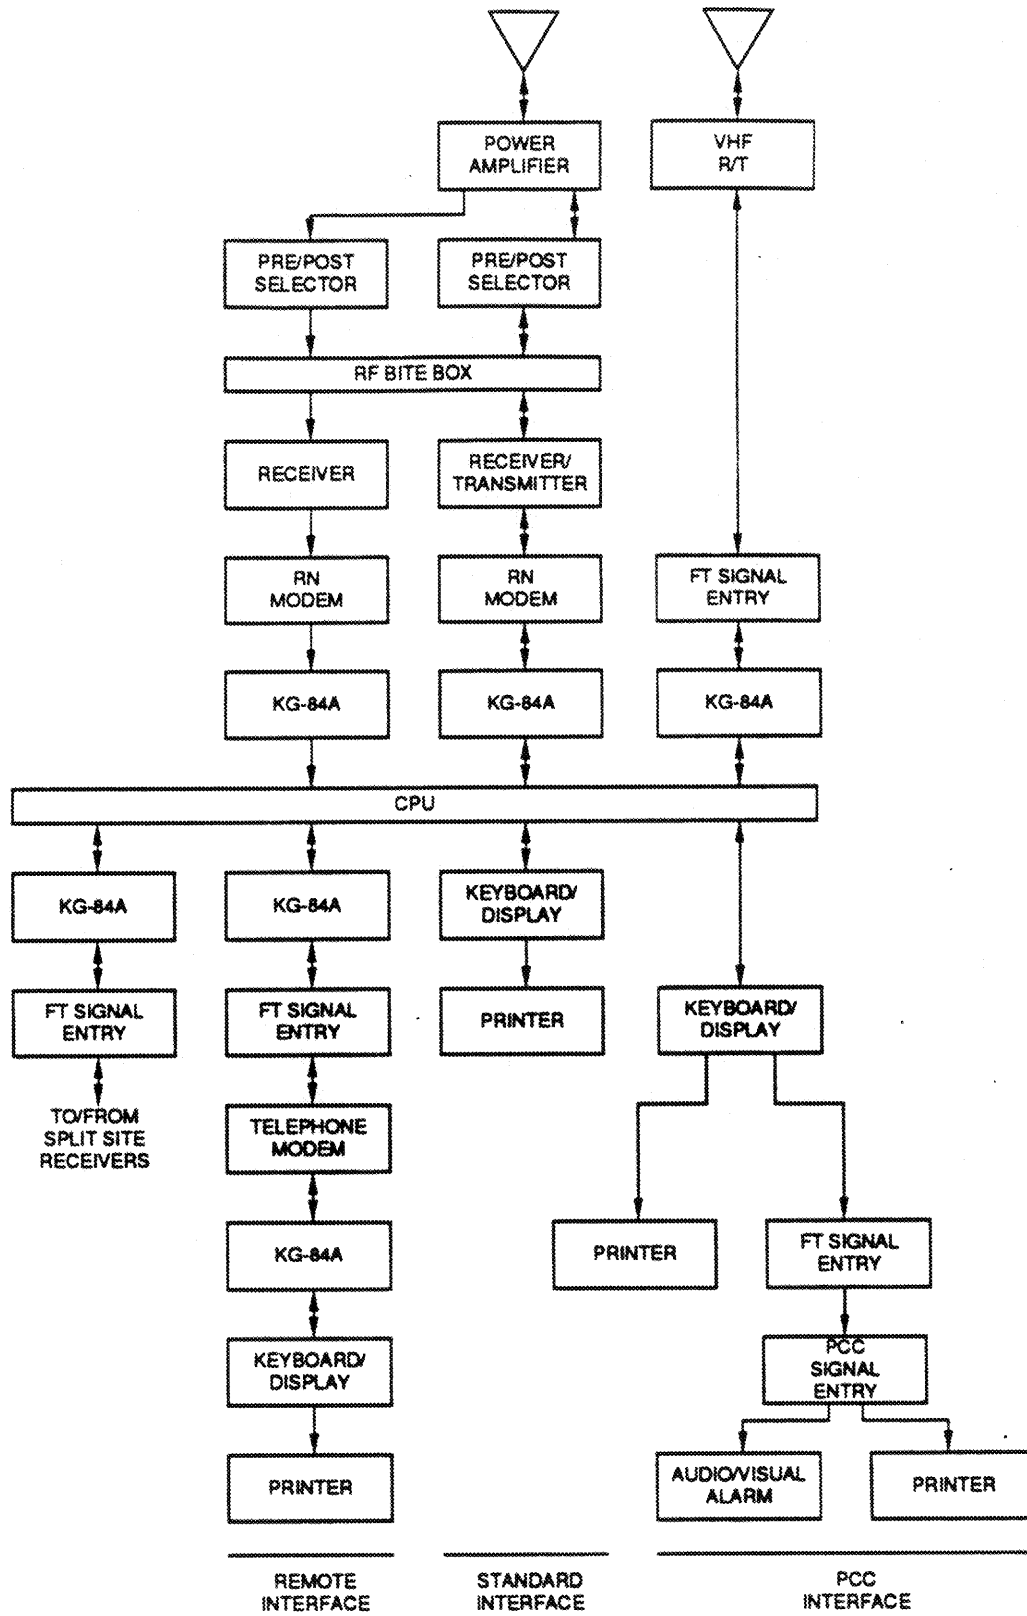

Figure 2-5. Data Signal Flow Diagram
a. Figure 2-5 shows the Data Signal Flow Diagram. HF encrypted data signals are received by the antenna, filtered by the pre-post selector, and applied to the receiver (or receiver/exciter) where the signal is converted to baseband. During data ECCM operation, the pre-post selector (PPS) filter sections and control circuits are bypassed to allow the required frequency agility. The encrypted baseband signal is applied to the RN Modem where it is demodulated. The encrypted data is then applied to the KG-84A for decryption and to the CPU, where data is verified. The CPU extracts address information and routes the data to the appropriate I/O. If that I/O is located in the FAN Terminal and FAN/RN communication interconnect is VHF, then data is encrypted by a KG-84A and applied to the VHF RT for modulation and transmission. If the CPU determines the data is addressed to an I/O within the Force Terminal, the clear data is routed to the I/O element and directly to the keyboard/display. At the operator's discretion, the message can also be printed. (Type 1 messages are always printed.) If the address is for a remoted I/O, then the data is encrypted by a KG-84A and routed to the FT signal entry. Here the encrypted data is converted to frequency tones for the remoted I/O and routed to the Telephone Modem. The encrypted data is received at the remoted I/O and routed to the Telephone Modem. The encrypted data is converted from frequency tones to a binary data stream. From the Telephone Modem the signal is sent to the KG-84A for decryption. The output of the KG-84A is sent to the keyboard/display.